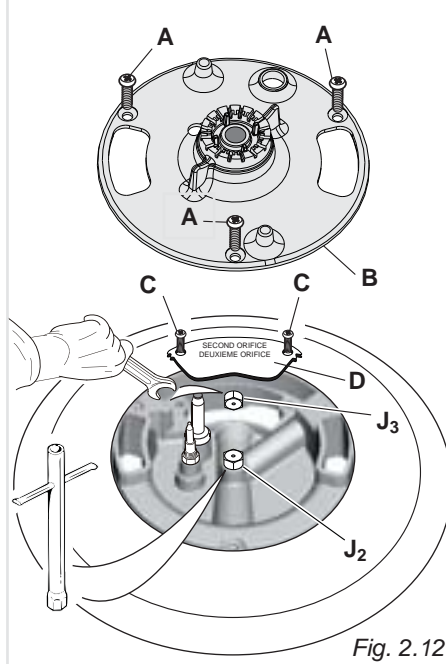

Fig. 2.12
(*) inner crown ("J₂" in figure 2.12)
(#) outer crown ("J₃" in figure 2.12)
- Dual burner only (fig. 2.12): Unscrew the no.3 fixing screws "A" and remove the inner crown flame spreader "B"; then unscrew the no.2 fixing screws "C" and remove the cover plate "D".
- Dual burner only (fig. 2.12): Refit the cover plate "D" and screw the no.2 fixing screws "C"; then refit the inner crown flame spreader "B" and screw the no.3 fixing screws "A".